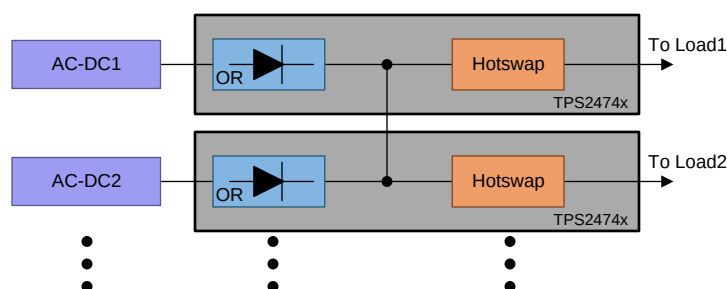
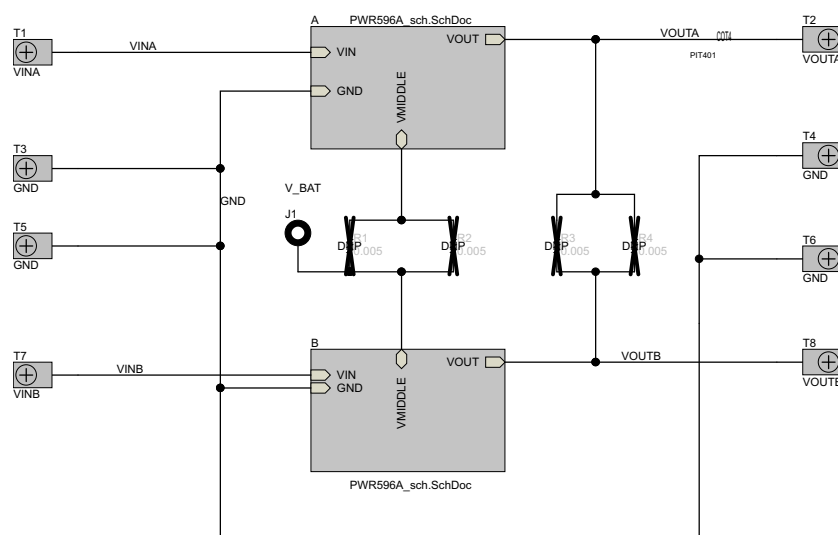
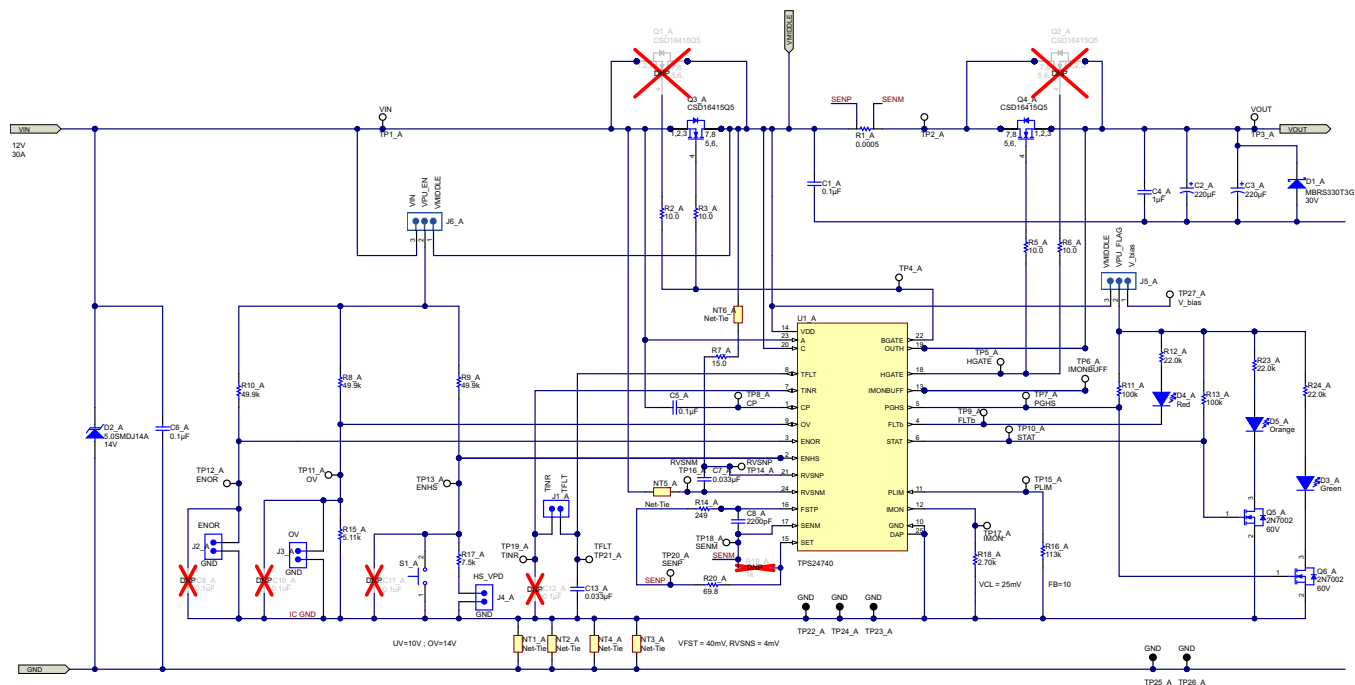
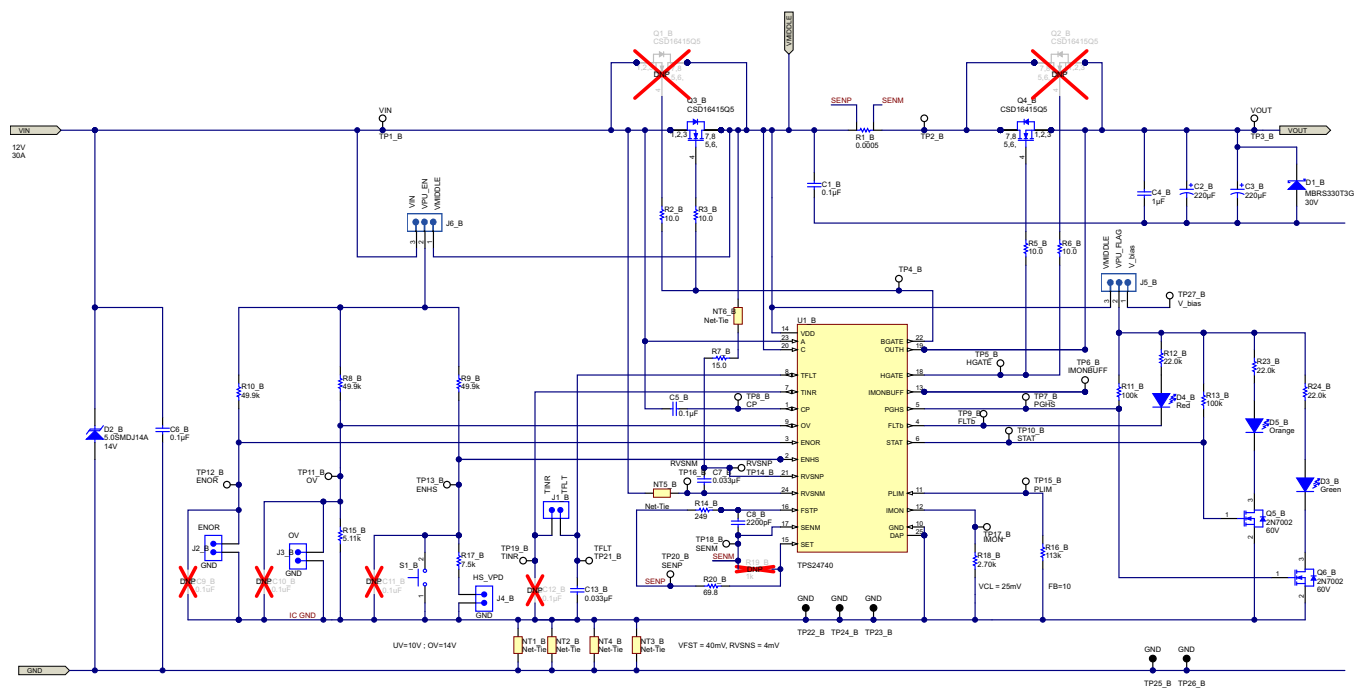

Figure 1. Block Diagram for Systems With Multiple Supplies and Loads
Figure 2. TPS24740EVM-596 High Level Schematic
Figure 3. TPS24740EVM-596 OR Then Hotswap Schematic A
Figure 4. TPS24740EVM-596 OR Then Hotswap Schematic B
The TPS24740EVM-596 is designed to accommodate two OR and hotswap configurations (as shown in Figure 1) mainly to evaluate systems with multiple supplies and loads. The ORing after each supply ensures that the loads do not lose power when any of the supplies fail. The hotswap in front of each load ensures that a failure on one load does not affect the operation of other loads. The node on the output of the ORing and the input of the hot swaps is referred to as VMIDDLE.
All test points are labeled appropriately on the TPS24740EVM-596 PCB according to the schematic in Figure 2.
Figure 2 through Figure 4 illustrate the EVM schematics.
The TPS24740EVM-596 as is can be evaluated to test an individual OR then hot swap circuit (Figure 3 or Figure 4). The following results show the performance for multiple supplies and loads as shown in Figure 1.
- Step 1. Short R1 and R2 to connect VMIDDLE. See Figure 2.